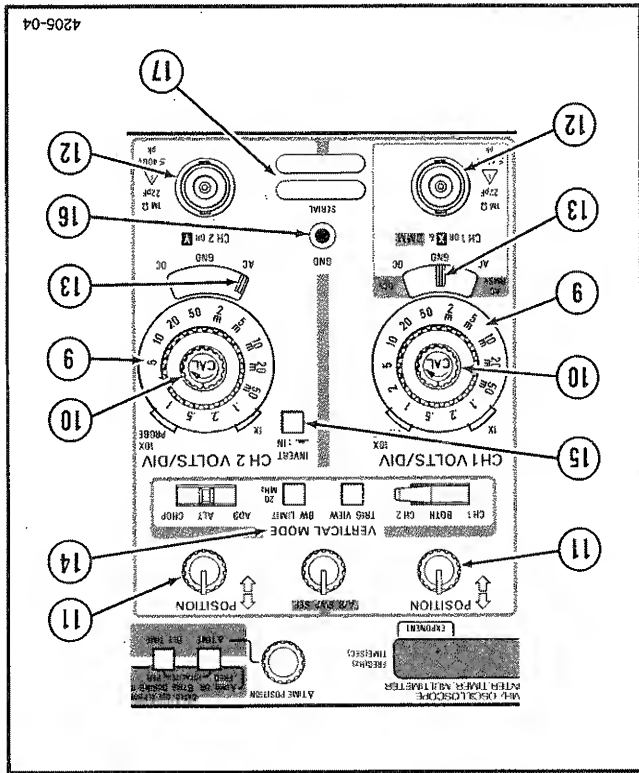

Fig. 2-4. Vertical controls and connectors.
Refer to Figure 2-4 for location of items 9 through 17.